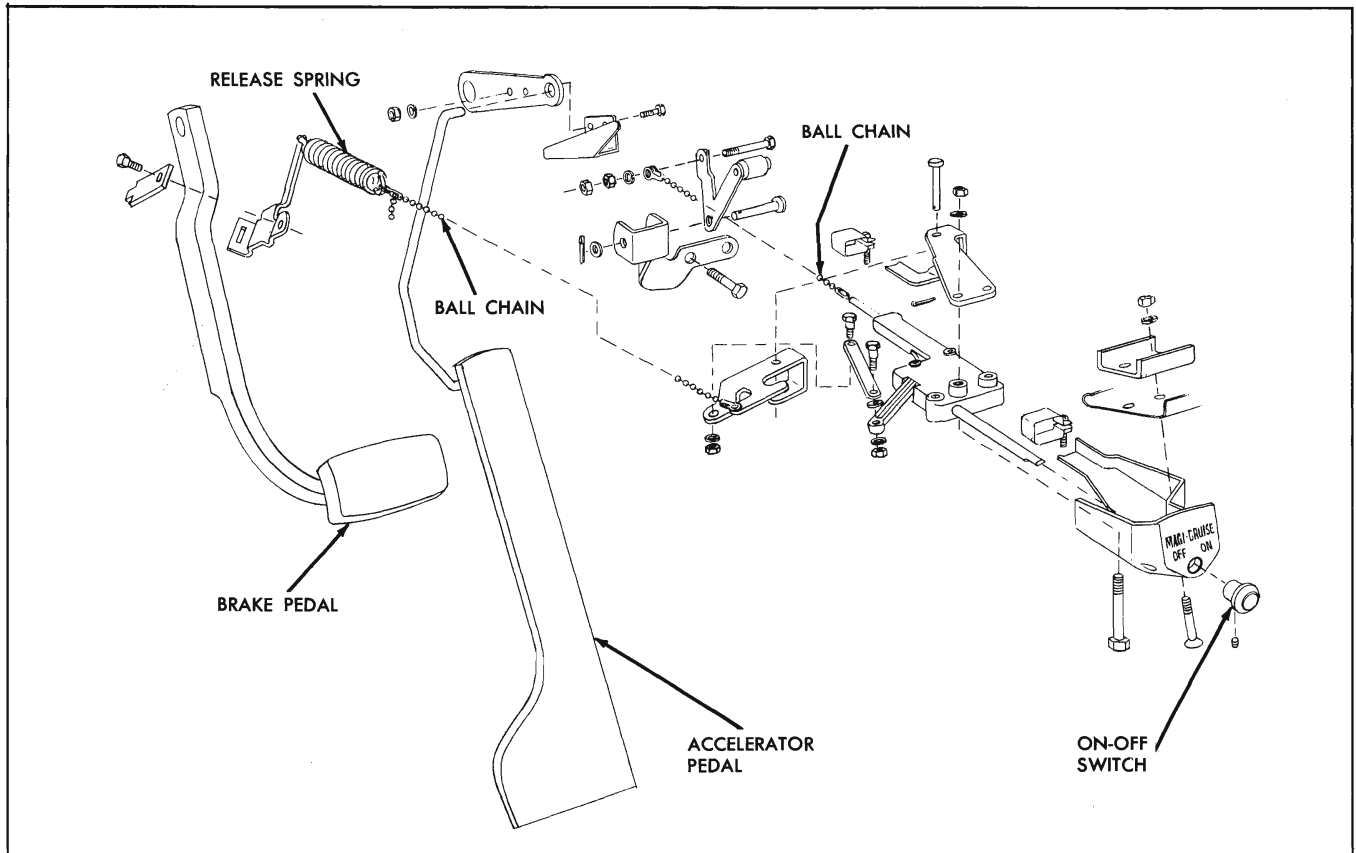

Fig. 12-7 Magi-Cruise—Exploded View
The Magi-Cruise is an accessory which holds the throttle at any position selected by the operator. It has a manual "on-off" switch on the instrument panel. In the "on" position it releases the holding lever and allows it to operate and lock the accelerator rod in any desired position (Fig. 12-7).
5. Install bead chain between the release spring and the release lever on the control leaving approximately two beads of slack (Fig. 12-7).